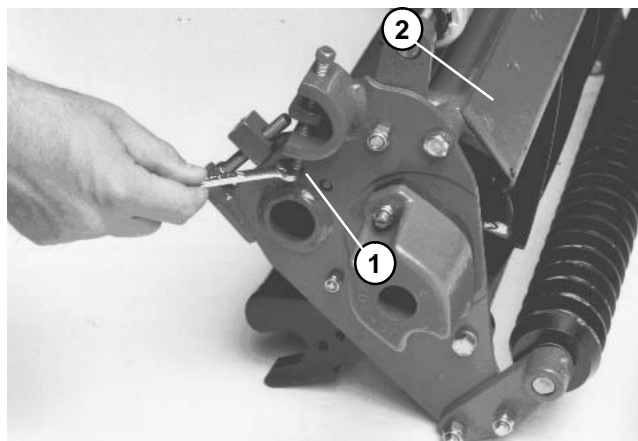
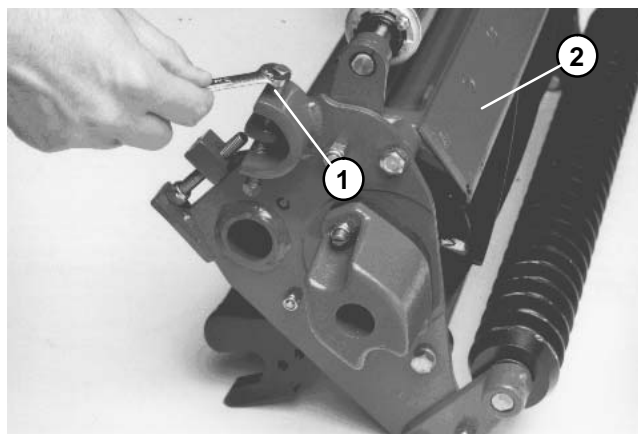

Figure 8
Figure 9
2. Adjustment of bedknife to reel is accomplished by loosening bottom screw on each side of cutting unit (Fig. 8), and tightening the top adjustment screw (Fig. 9) on each side of cutting unit. This adjustment will position the bedknife closer to the reel blades. Adjust until light contact is heard on both ends of the reels.
3. After adjusting bedknife to reel, make sure that both the top and the bottom adjustment screws are secured on both ends of the cutting unit (Fig. 8 & 9).